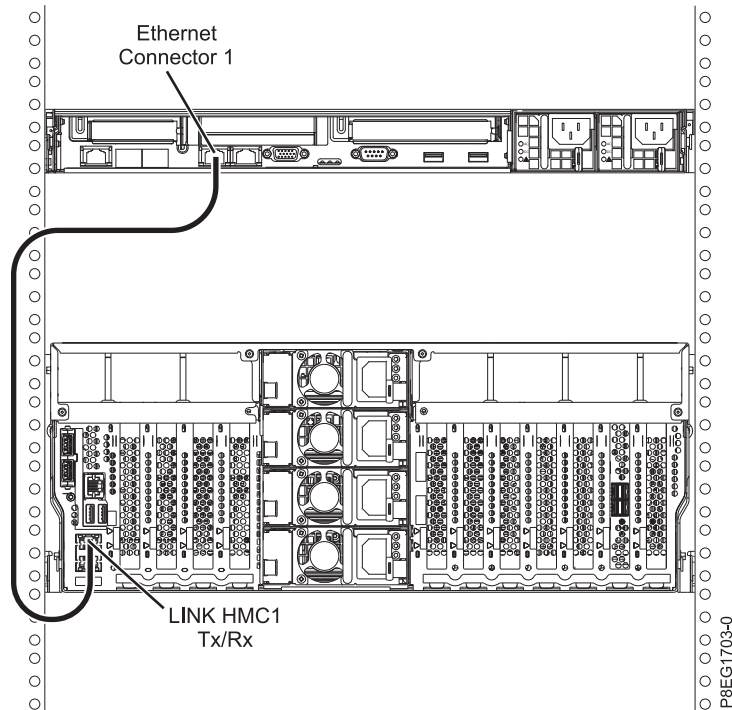

Figure 17. Attaching the HMC to the managed system
1. If you want to directly attach your HMC to the managed system, connect **Ethernet Connector 1** on the HMC to the **HMC1** port on the managed system. See Figure 17 on page 14.